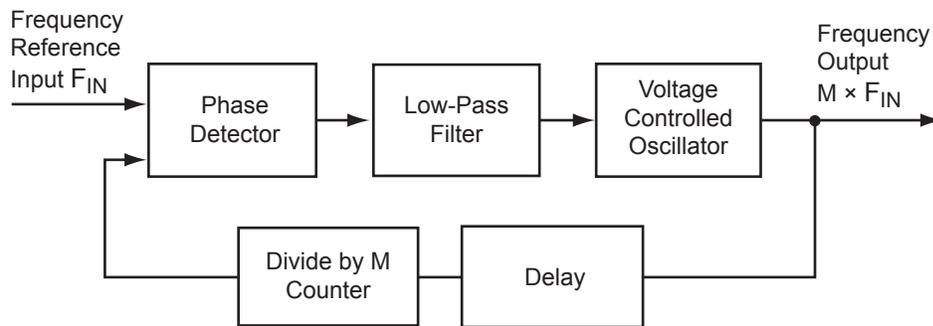

Figure 3-19 • Simplified PLL Core with Feedback Divider and Delay
This section briefly describes the basic principles of PLL operation. The PLL core is composed of a phase detector (PD), a low-pass filter (LPF), and a four-phase voltage-controlled oscillator (VCO). Figure 3-19 illustrates a basic single-phase PLL core with a divider and delay in the feedback path.
Consider Figure 3-19 with the feedback path bypassing the divider and delay elements. If the LPF steadily applies a voltage to the VCO such that the output frequency is identical to the input frequency, this steady-state condition is known as lock. Note that the input and output phases are also identical. The PLL core sets a LOCK output signal HIGH to indicate this condition.